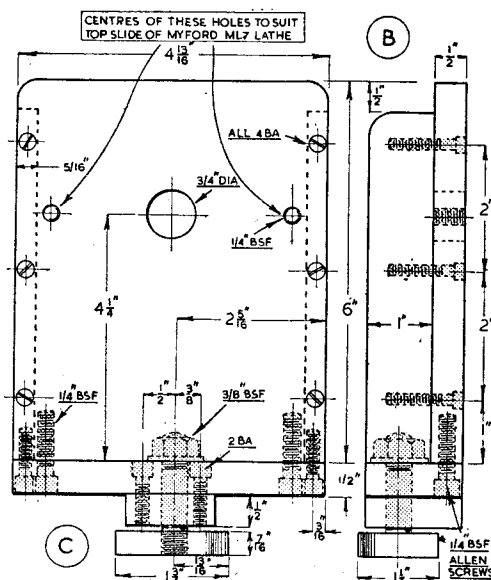

Fig. 1. Constructional details of the bed bracket ("B") and the clamp plate ("C")
The Bed Bracket—(B) Fig. 1
After the material for the vertical plate has been filed flat on one face, the drill holes shown in Fig. 1 are marked-out and then drilled, but only a pilot hole for the top-slide pivot should be drilled at this stage, as it will be bored out later to the finished size of 3/4 in.